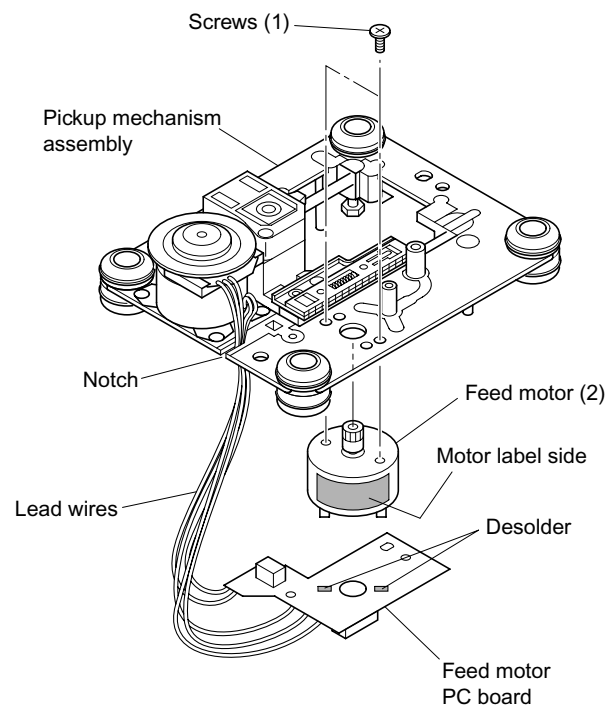

Fig. 2-1-22
1. Remove the gear B assembly and the gear A. (Refer to item 1-3-6.)
2. Remove two screws (1) and remove the feed motor (2) (with the feed motor PC board (3) attached). (Refer to Fig. 2-1-22.)
3. Desolder the terminals of the feed motor (2) and remove the feed motor PC board (3).
- When replacing the loading motor, meet the polarity phase of the terminals. (Mount the motor with the label positioned as shown in Fig. 2-1-22.)